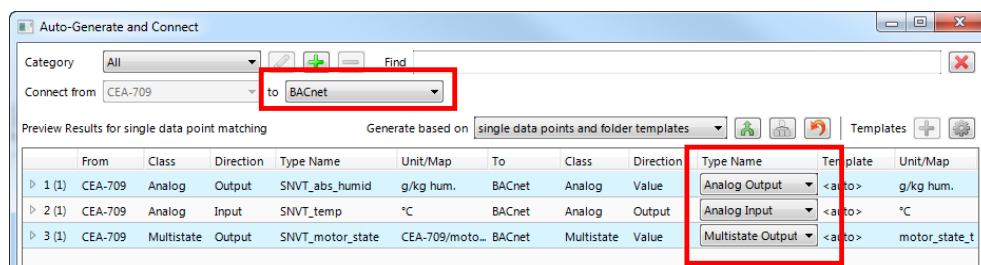

Figure 187: Auto-generate and connect preview.
- The auto-generate preview dialog opens as shown in Figure 187. Choose the target technology. The preview results show a list for each source type found how it will be created as a target type. The **Type Name** column provides a drop-down to modify the result. This choice is remembered and will be applied the next time again. You may click the **Restore defaults** button  to revert all custom settings.